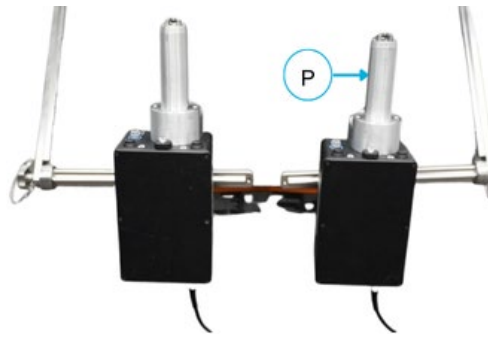

Figure 10-19: Motor Control Box Position
- Plug facing towards floor (**Figure 10-19**)